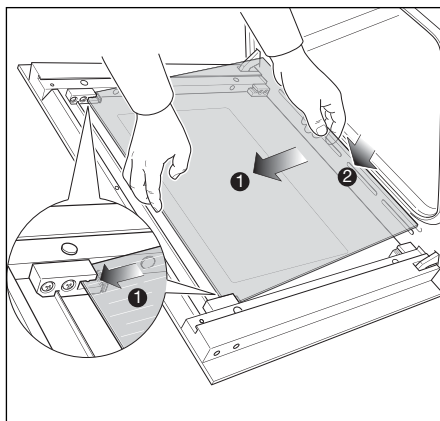
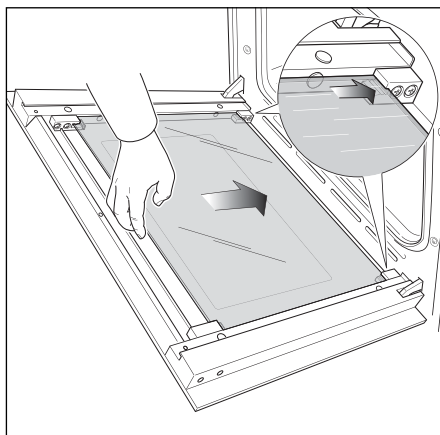

Fig.49b
Fig.49c
- Gently insert the top edge of the pane into the top clamps (arrow 1 in Fig. 49b), then lower the pane and insert the bottom edge into the bottom clamps (arrow 2 in Fig. 49b); and then slide the pane into position (Fig. 49c).